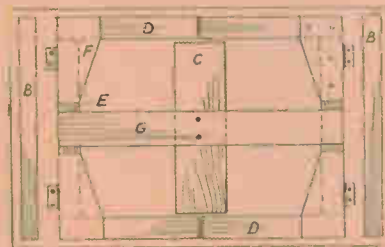
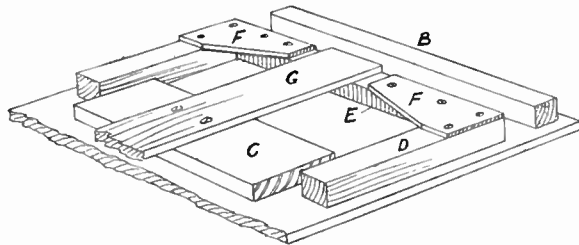
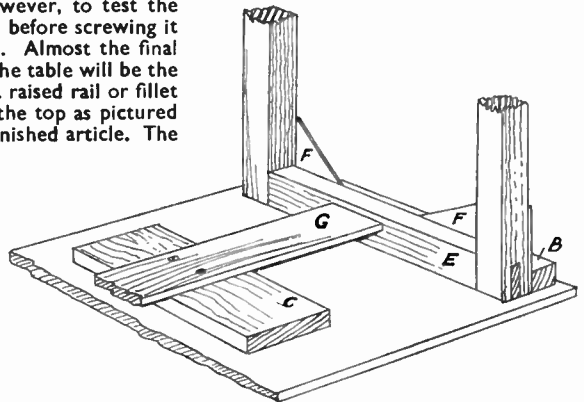
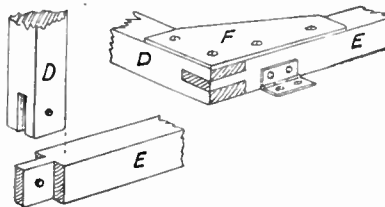

Fig. 1
Fig. 2
Fig. 3
Fig. 4
Wood  $\frac{1}{2}$ in. thick would answer providing it is of good quality, while  $\frac{3}{4}$ in. stuff would make a much stiffer and better job. At a distance of  $\frac{1}{2}$ in. in from the ends of the board, glue and screw on the cross battens (B), seen in the plan Fig. 1. These are 13ins. long and 1in. square in section, the sharp edges being papered off after fixing.
Next, take in hand the making of the two pairs of legs. These are identical in shape, and we therefore propose dealing with only one pair in our instructions. The construction is seen in the large diagrams Figs. 2 and 3, and in the details Fig. 4. It should first be shown how each pair of legs fold down flat on the underside of the tray, and how each pair is held in an upright position when required for use. Fig. 2 shows the legs folded flat, and Fig. 3 the same when erected. Each pair of legs forms an open frame, hinged to the tray underneath by a pair of stout brass hinges, seen in the detail Fig. 4 and in the plan Fig. 1.
wood stiffeners (F). When the legs are raised it will be seen that the outer face of the legs, or rather the pieces (F), fit snugly against the rail (B), as seen in Fig. 3. The board (G) consists of a springy piece of wood which when the legs are raised, fall on the inner side of rail (E) and thus hold the legs in place as seen in Fig. 3. Likewise, when the legs lie flat they are held secure and firm, as Fig. 2.
framed together with the open mortise joint shown in detail in Fig. 4. The joint should be cut accurately and fit stiffly and then be glued and fixed, perhaps, with a hardwood dowel pin. Test the joint for squareness with a set-square or a try-square. When this has been done the ¼ in. stiffening pieces (F) are glued and screwed on as shown. These pieces are each cut from a piece of plywood 5 ins. by 2½ ins.
will be wanted for each leg frame, of course, and they should be attached as the detail Fig. 4 shows. Take care to lay each leg frame carefully in place on the underside of the tray before running the screws in.